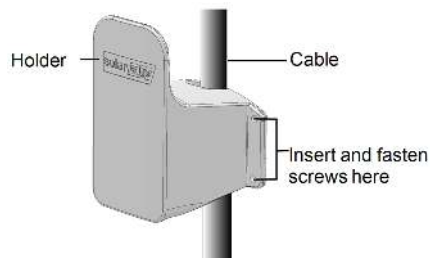

Figure 2: Cable connection
5. Position the EV Charger Cable (with the plug at the top) in the groove of the holder and attach the holder to the wall using the screws (See Figure 2). This allows cable strain relief.